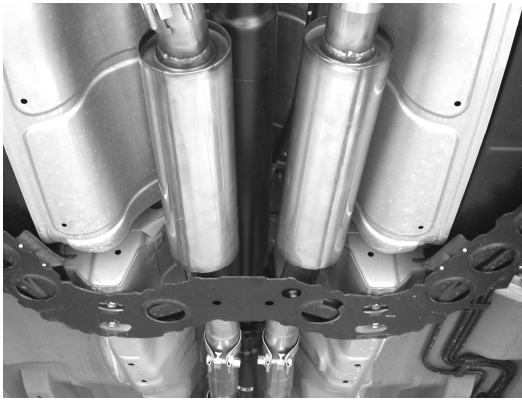

Figure 8
3. Place a clamp over the expanded end of both left and right front muffler assemblies and set them into position after the H-pipe assembly as shown in figure 8. **DO NOT** tighten the clamps.